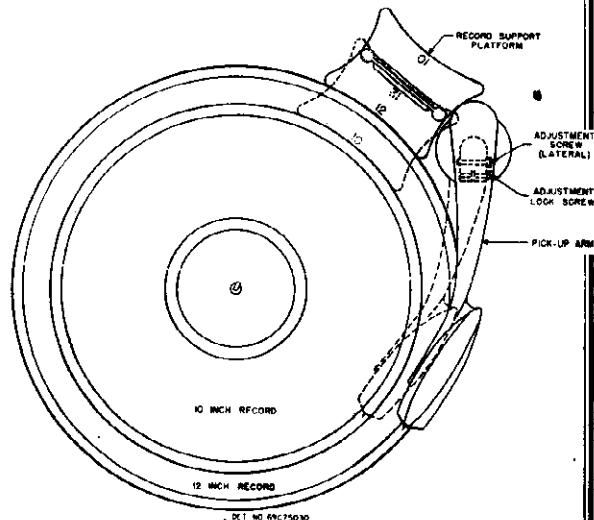

FIGURE 10 LATERAL ADJUSTMENT OF PICK-UP ARM
6. With a screwdriver, loosen the adjustment lock screw (See Figure 10) and then turn the adjustment screw until pick-up is positioned correctly over the middle of the area between the edge and the first groove in the record. Turn the adjustment screw in a counter-clockwise direction to move the pick-up arm farther from center and in a clockwise